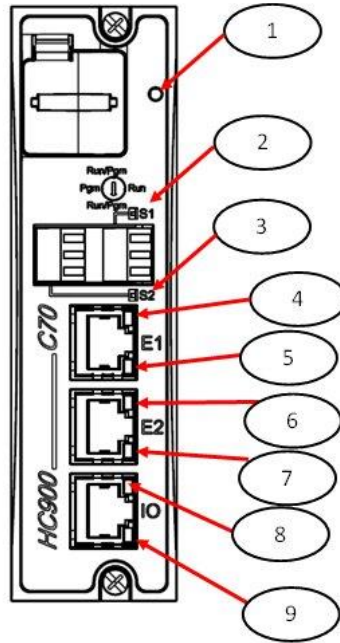

Figure 89 – LED Indicators on Controller CPUs (See Table 26)
When the Controller has a flashing amber status LED after power-up a critical, power-on-self-test, error has occurred that requires controller module replacement. When the Controller Status LED (Figure 89 on page 174, item 1) is flashing red, consult Table 27.